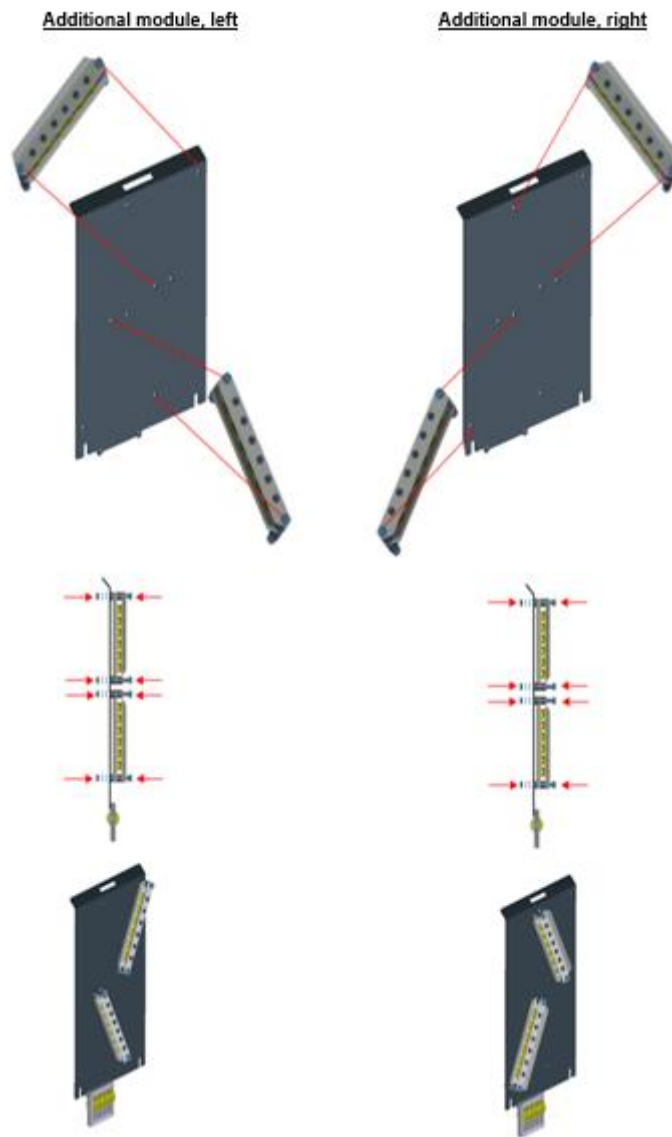

Fig. 10: Mounting deflections additional module
1. The deflection for the additional module (XL) is fastened as shown in Fig. 10 whether the deflection is required for the right or left side.